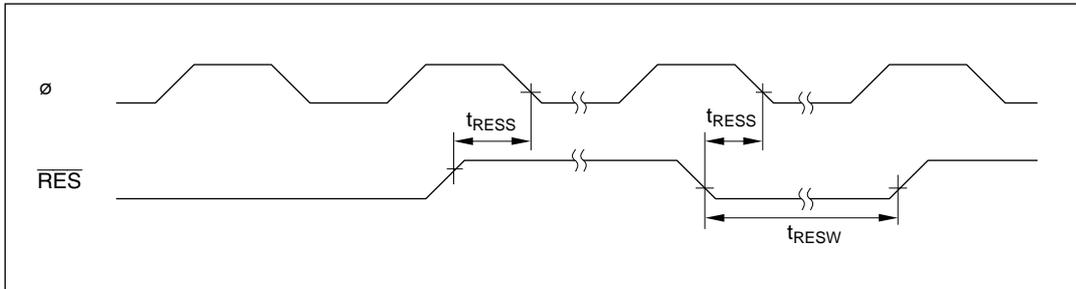

Figure 20-6 Reset Input Timing
20.3.2 Control Signal Timing	Figures 20-6 to 20-9